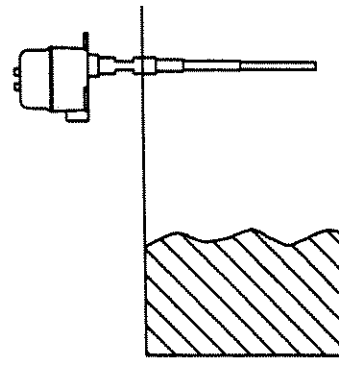

Figure 4-3
- A. Be sure the material level is well below the end of the sensing element. See Figure 4-3.